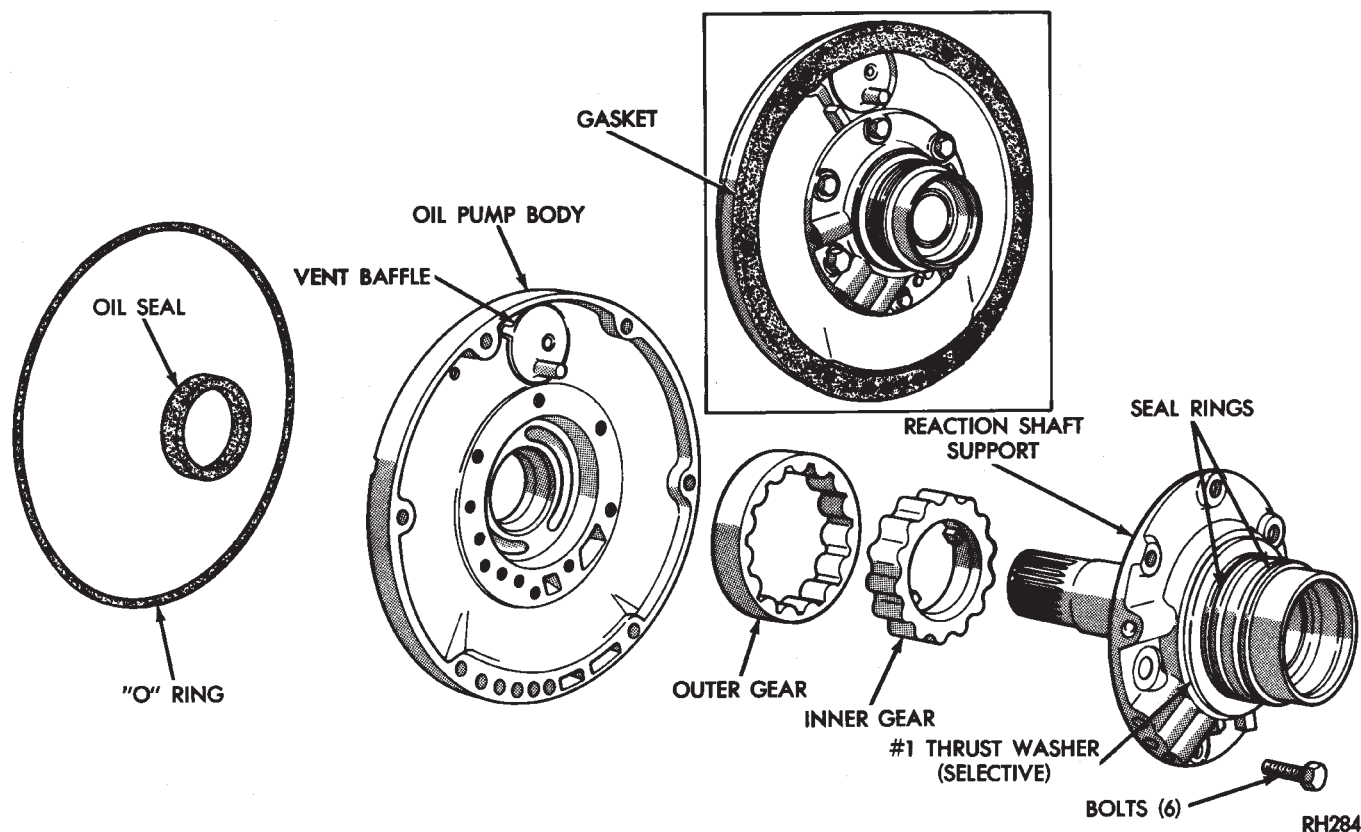

Fig. 53 Oil Pump And Reaction Shaft Components—46RH
- (5) Remove O-ring seal from pump body (Fig. 53). Discard seal after removal.
- (6) Remove oil pump seal with Remover Tool C-3981. Discard seal after removal.